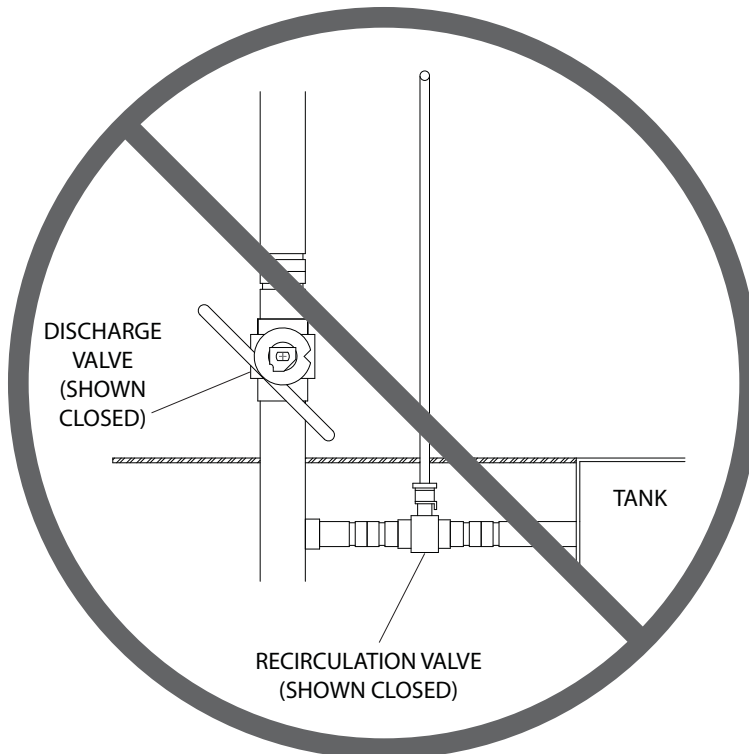

Figure 2 – NEVER Engage Slurry Pump Clutch with Both Valves Closed
**⚠ DANGER** *Never engage (turn on) the slurry pump clutch when both valve handles are positioned as shown in Figure 2. If both valves are closed, a situation of extreme heat generation will result. Failure to comply could result in death or serious injury. Failure to comply could also result in product or property damage.*